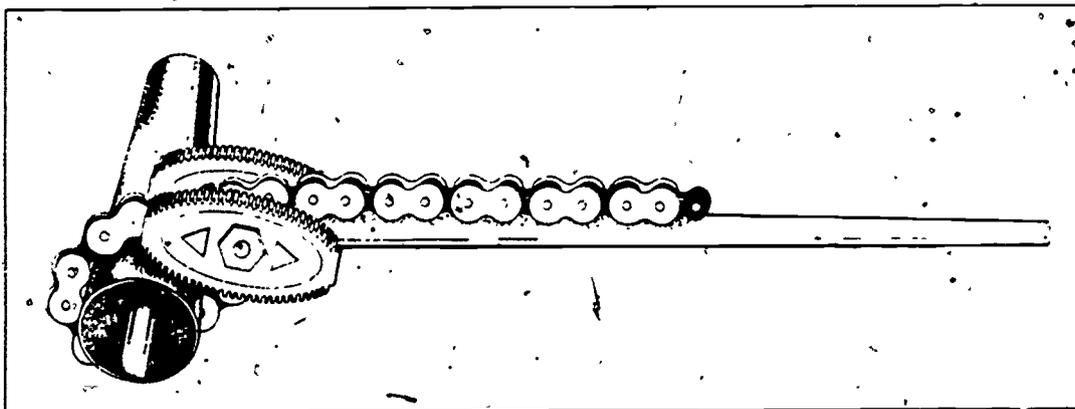

Figure 3-45. Chain tongs.
*Chain tongs.* The chain tongs, shown in figure 3-45, are generally used on pipes and fittings that have a diameter of 2 inches or more. They are placed on the pipe by wrapping the chain around the pipe and attaching it to the wrench by a slot arrangement. One advantage of a chain tong is that it will grip and apply